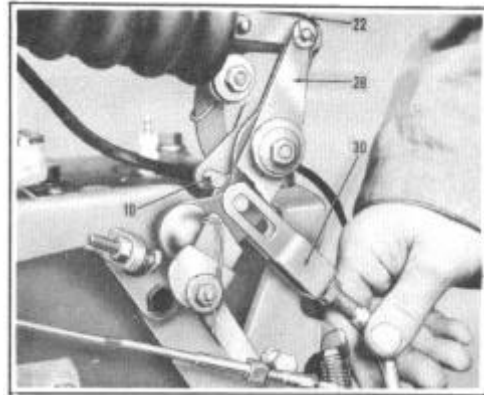

FIGURE 24
Stop the engine. Pull the piston rod (22), Figure 24, out to its full travel (to rear of car). Pull the clutch rod up and forward to check for 1/8" lash. If lash is correct, front end of slotted clevis (30) will just touch pin (10).